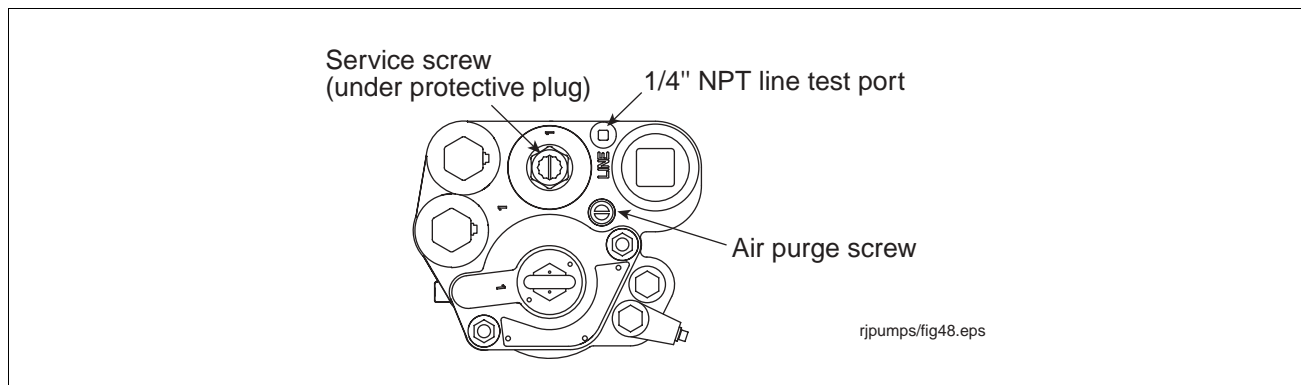

Figure 50. Locating pump line test port
- Pressure may be observed using a gauge attached at the impact valve or to the pump's line test port (see Figure 50).
2. Remove and save the protective plug over the service screw and turn the screw clockwise (see Figure 50). As the screw approaches its bottom position, you will hear the system depressurizing. Continue turning the screw until it can go no further. When the screw is all the way down, backoff the screw 4 turns to lift the check valve and let the fuel drain out of the manifold's hydraulic cavities. Continue to turn the screw all the way counterclockwise. When the screw is almost up, the check valve will drop down into position.
3. Remove the line test port plug (see Figure 50) and attach test gauge.
4. Open the air purge screw 2 - 3 turns counterclockwise (see Figure 50).
2. Remove and retain the protective plug over the service screw and turn the screw clockwise (see Figure 50). As the screw approaches its bottom position, you will hear the system depressurizing. Continue turning the screw until it can go no further.